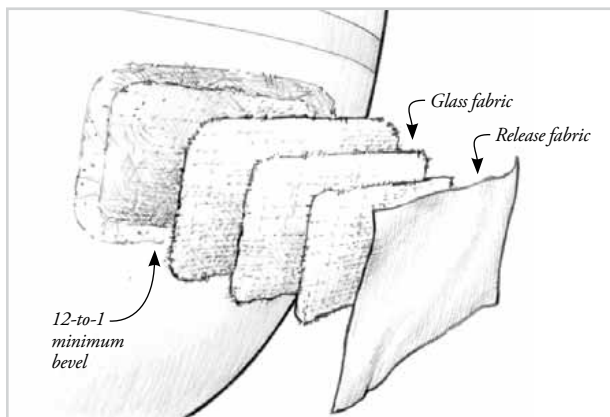

Figure 4-5 Cut an appropriate number of pieces of fiberglass fabric. The first piece should match the outside edge of the bevel.
1. Cut an appropriate number of pieces of fiberglass fabric the same shape as the hole. The first piece should match the outside edge of the bevel, with subsequent pieces gradually getting smaller. The final layer should match the inside edge of the bevel at the hole. The combined thickness of the layers should be slightly thinner than the original panel to allow for shaping and fairing (Figure 4-5).